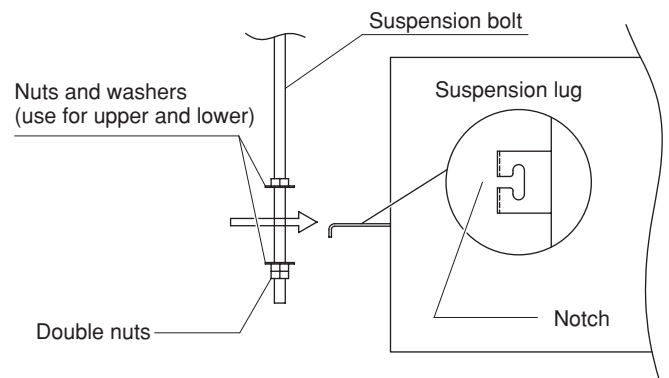

Fig. 3-60
(3) Thread the 3 hexagonal nuts and 2 washers (field supply) onto each of the 4 suspension bolts as shown in Figs. 3-60 and 3-61. Use 1 nut and 1 washer for the upper part, and 2 nuts and 1 washer for the lower part, so that the unit will not fall off the suspension lugs.